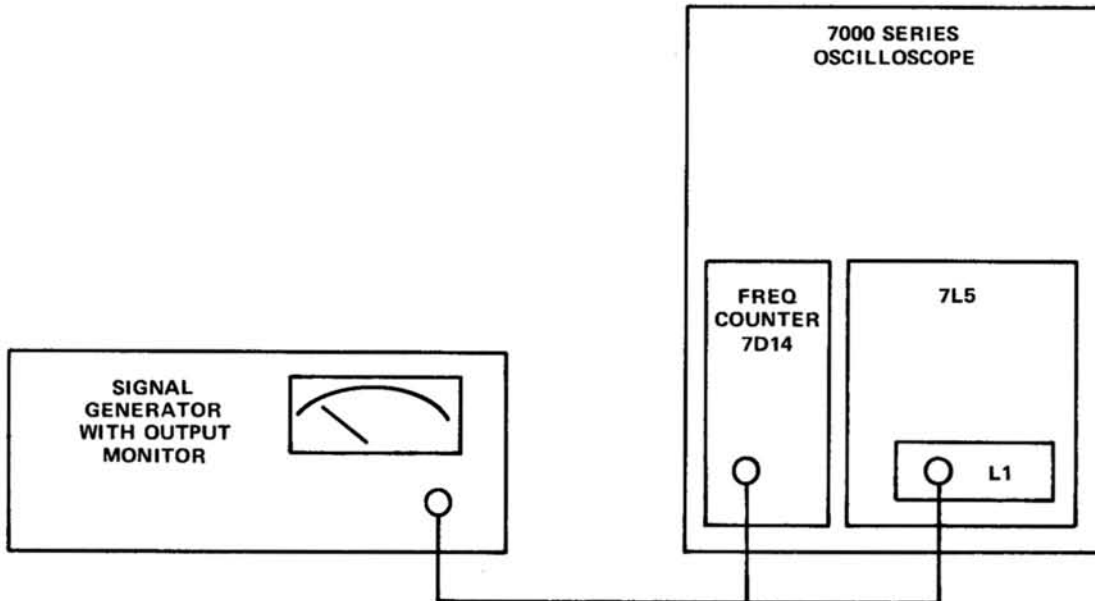

Fig. 3-2. Dot frequency range and display flatness test setup.
- a. Connect test setup per Fig. 3-2. Set triggering to NORM and FREE RUN and set the other front panel controls as follows:
a. Connect test setup per Fig. 3-2. Set the front panel controls as follows:
a. Connect the test setup in accordance with Fig. 3-2 using a stable signal generator; (Δ frequency should be equal to or less than 0.5 Hz/hour).